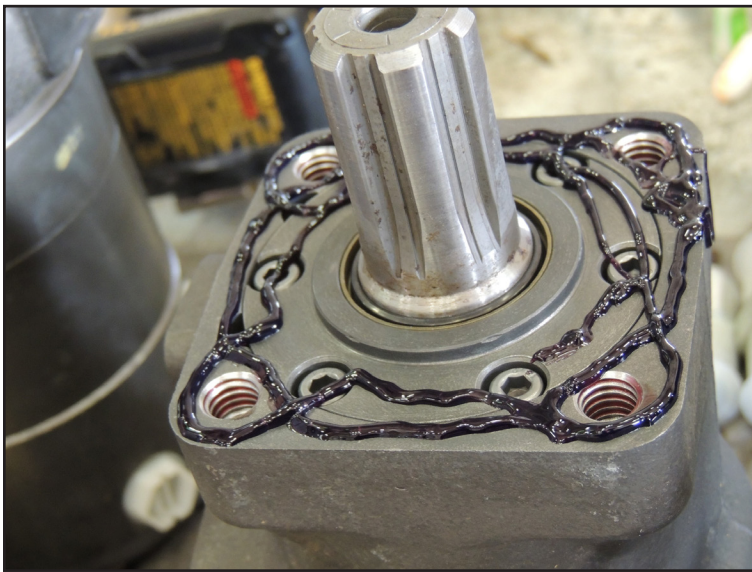

Figure 9
5. Apply Loctite® 515® according to the directions on the Loctite® packaging to the top of the flange on each motor (Figure 9). **DO NOT** get Loctite in the mounting holes. **DO NOT** get Loctite on the shaft seal.